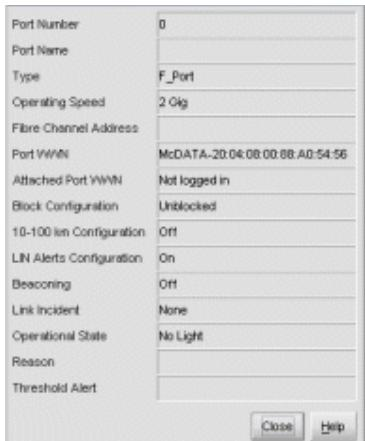

Figure 38 Port Properties dialog box
8. Double-click the port connector used to make this ISL connection to open the Port Properties dialog box (Figure 38).